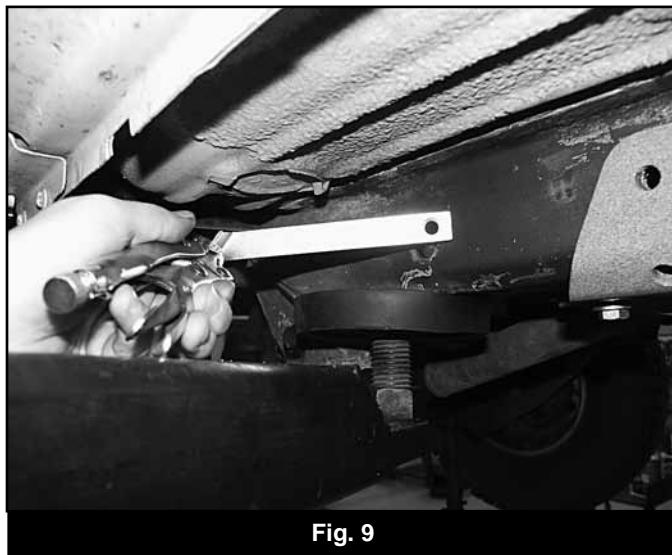

Fig. 9
23. Install the side supports back into position with the same hardware as before. Lightly snug the hardware. Install the provided nut tab (01377, 01378) in the slotted hole in the frame in front of the side support (Fig 9), back to the 7/16" hole drilled earlier (the nut tabs are driver's and passenger's side specific to match the angle of the slot). Loosely fasten the side support with a 7/16" x 1-1/4" bolt and 3/8" USS washer (BP 715) into the nut tab.